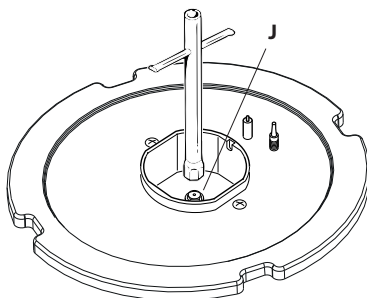

Figure 5a
- Using a wrench, substitute the injectors “J” (figs. 5a, 5b) with those most suitable for the kind of gas for which it is to be used (see table above).